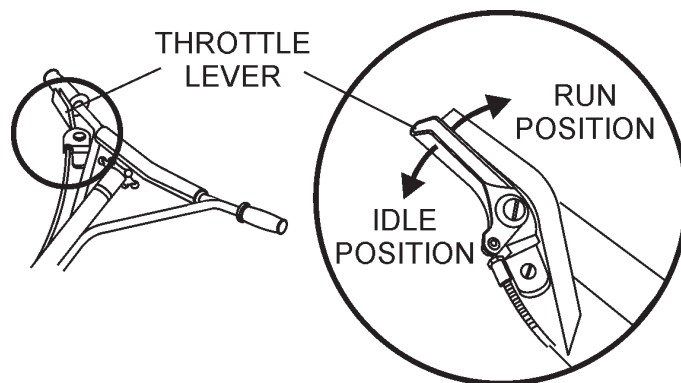

Figure 22. Throttle (Run Position)
- To begin troweling, move the throttle lever (Figure 22) toward the "RUN" position by pulling back toward the operator..